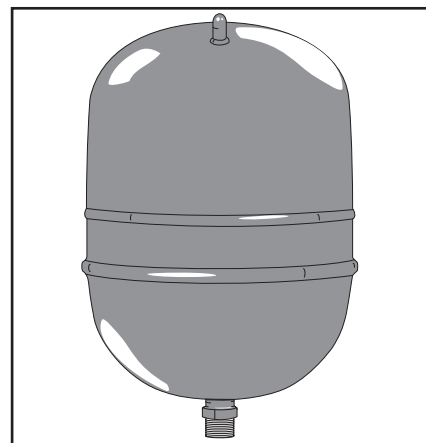

Figure 5 - A Thermal Expansion Tank helps protect the home's plumbing system from pressure spikes.
- Thermal Expansion Tank (see Figure 5 on page 7)
Verify that you have a properly sized Thermal Expansion Tank (Figure 5). We recommend installing an expansion tank if your home does not have one. Codes require a properly pressurized, properly sized Thermal Expansion Tank in almost all homes. (See image on inside front cover.)